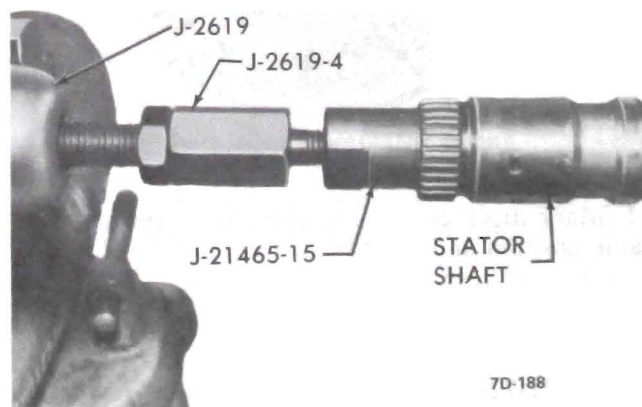

Figure 7D-122
b. Using Installer J-21465-3 install bushing in front of shaft. See Figure 7D-123.